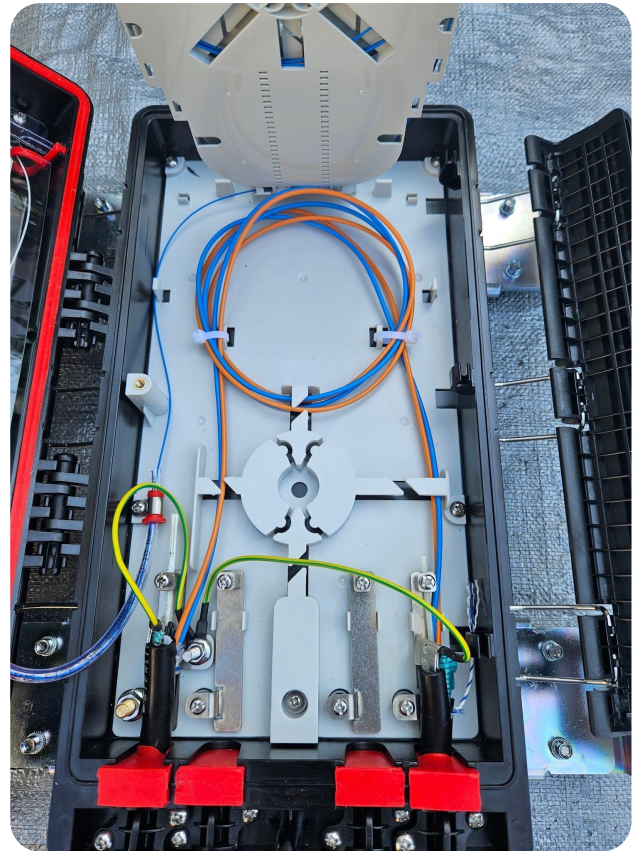

Fig. 10b
- Utilize tie wraps to secure buffer tube bundles as shown in Fig. 10b.